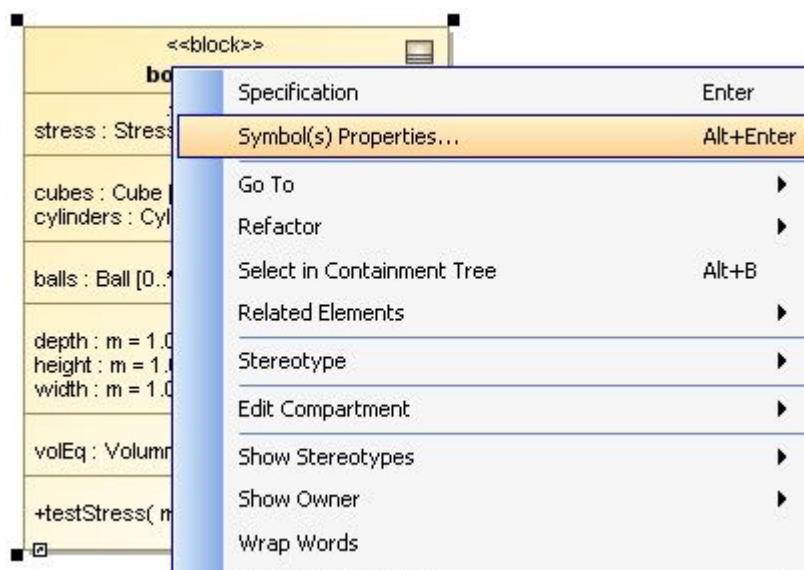

Figure 222 -- Symbol(s) Properties... Shortcut Menu
1. Either right-click the property symbol and select **Symbol(s) Properties...** (Figure 222) or select the property and press **Alt + Enter**. The **Properties** dialog will open.